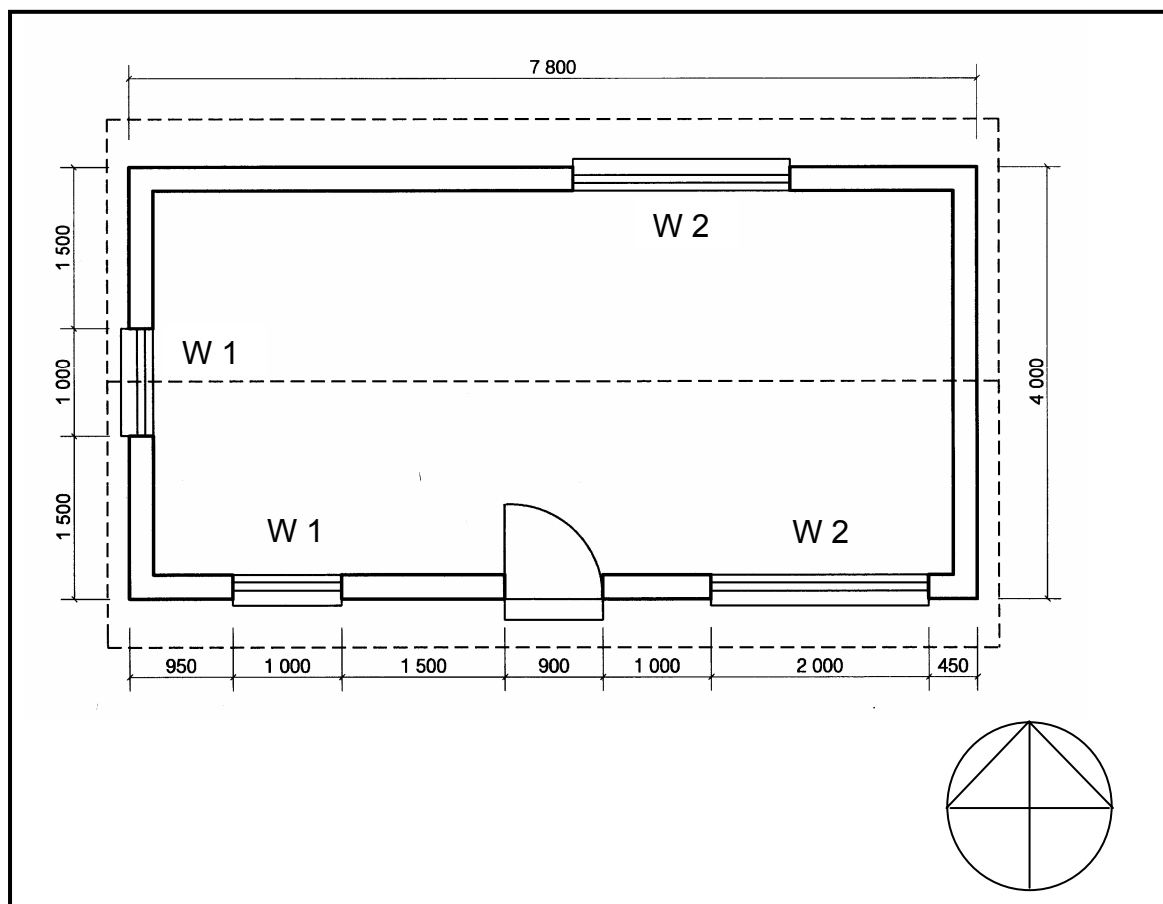

FIGURE 6.2
- 6.2 FIGURE 6.2 below shows the floor plan of a proposed building. Use the given specifications to develop and draw to scale 1 : 50 on ANSWER SHEET 6.2 the south elevation of the building.